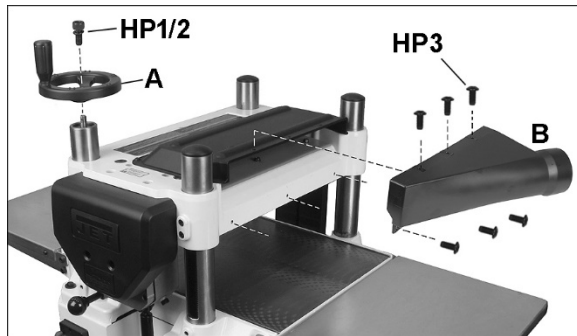

Figure 5-3: handwheel and dust port
Install handwheel (A) onto shaft, making sure to orient it with the flat on the shaft. Insert socket hd cap screw with lock washer (HP1,HP2) and tighten. See Figure 5-3.
Mount dust port (B) to rear of head casting with six button head screws (HP3). See Figure 5-3.